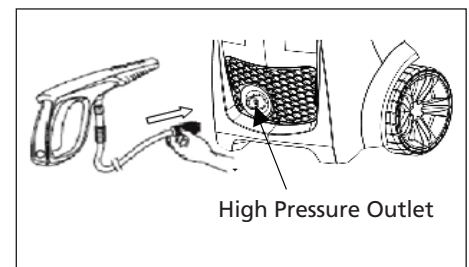

Figure 13 - Attach high pressure hose to high pressure outlet
10. Attach high pressure hose to high pressure outlet (see Figure 13).